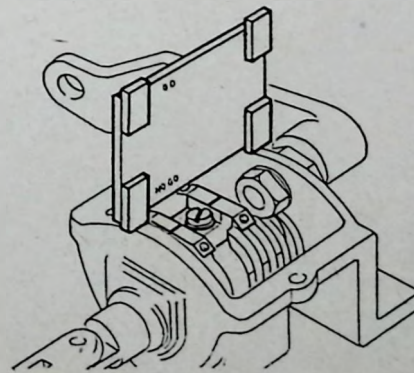

FIG. 68.—Checking contact height.
- (1) Position "no go" side of gauge on casting. (See Fig. 68). During this operation ensure that the gauge is not tilted but kept vertical to the axis of the spindle. Slide gauge across contact faces and check that all four just touch.
- (2) Use opposite ("go") side of gauge and repeat check. Contact faces must not touch gauge.
- (3) Loosen screws which clamp contacts to moulding and raise or lower contacts until condition is met.